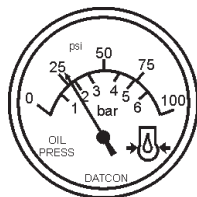

Figure 47. Oil Pressure Gauge
12. The engine oil pressure gauge (Figure 47) will indicate the oil pressure (kg/cm²) of the engine. Under normal operating conditions the oil pressure is approximately 25 psi.